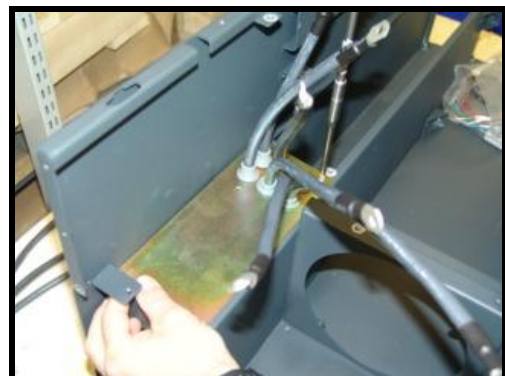

Figure 7.4.24
- 8) Remove the screws which fix dV/dt chokes to the top of the chassis (see figure 7.4.24).
- 2) Fix the upper bar of dV/dt chokes with their 4 screws (**M4x8** DIN-7895H) to the drive's chassis (see figure 7.4.24).